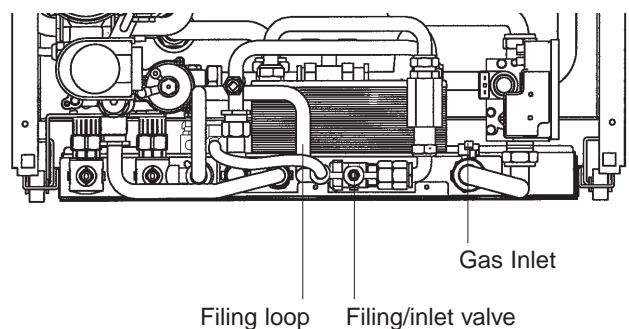

Fig. 6
**a)** Identify the filling/inlet valve (found at the base of the appliance) and C/H Filling Cock. See fig. 6 & 7.
**b)** The 'filling loop' may have been disconnected from the filling/inlet valve; if so reconnect (fig. 6) unscrewing the cap as necessary.